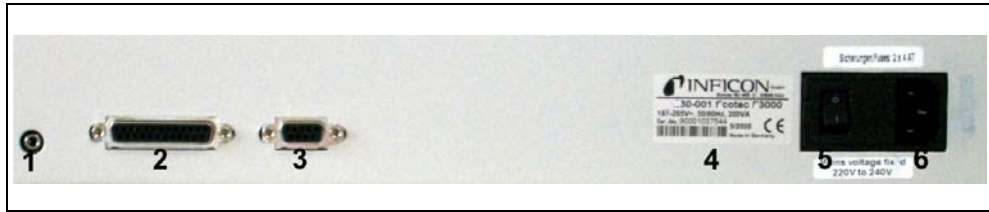

Fig. 9 Electrical connections
**Notice** The local regulations for electrical connections must always be observed (in Germany VDE 0100). The mains voltage rating for the Protec P3000 can be read off from the name plate left of the power switch. The mains voltage setting of the Protec P3000 is fixed and can not be changed. A separate fuse for each of the mains conductors has been integrated into the mains socket (Fig. 9/6).